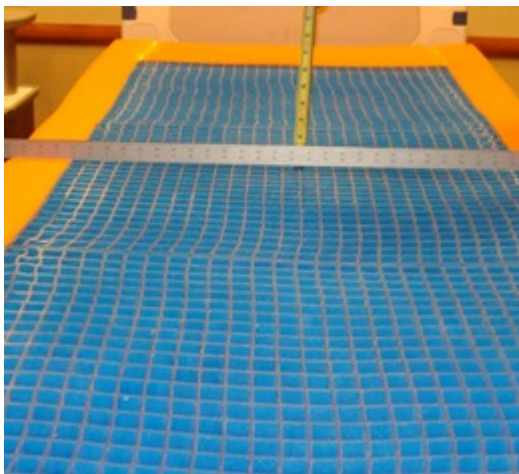

Figure 3: Position straight edge
5. Place a straight edge (at least 35 in. (88.9 cm) long) across the gel from left to right at the sacral region (patient seat section) of the support surface (Figure 3 on page 16).